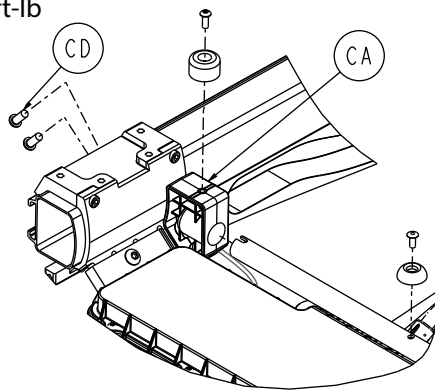

Figure 38 – Remove the Gatch bumper housing
8. Using a T27 Torx driver, remove the two button head cap screws (CD) that secure the Gatch bumper housing (CA) to the hitch bracket (Figure 38). Remove and save the Gatch bumper housing. Save the screws. Repeat on the other side.